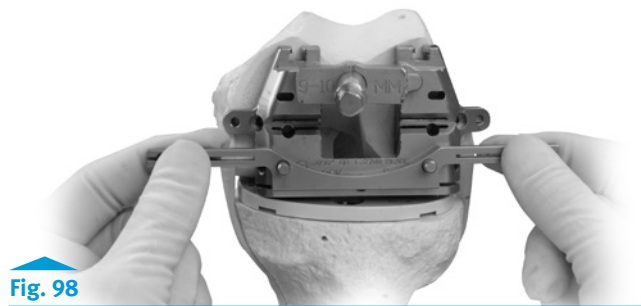

Fig. 98
- Insert the tabs of the Revision Rotational Alignment Guide into the posterior cutting slot, and rotate the guide until the handles are aligned with the transepicondylar axis (Fig. 98).